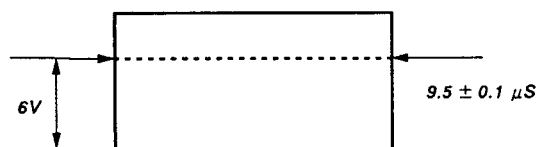

Fig. 2
4. Observe the anode of D516 or TP300 with the oscilloscope and adjust **[H-BLK]** to obtain the waveform in Fig. 2.